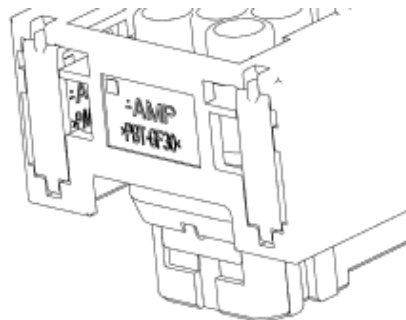

Fig. 17
NOTE Check Slide position. The operation should be made with same Slide position as shipping condition. See Fig. 17 for Slide shipping condition.
- (2) Release latch at the tip of Lever Assembly Lock at wire taking out side with specified screw driver being inserted in the hole and pressing. And then take out Lever Assembly after releasing all latching at wire taking out area by pressing the lock to inside. (See Fig. 17)